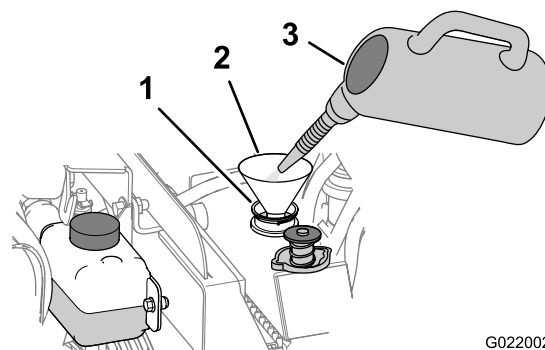

Figure 81
- C. Add a cooling system cleaning solution to the radiator through the filler neck (Figure 81).